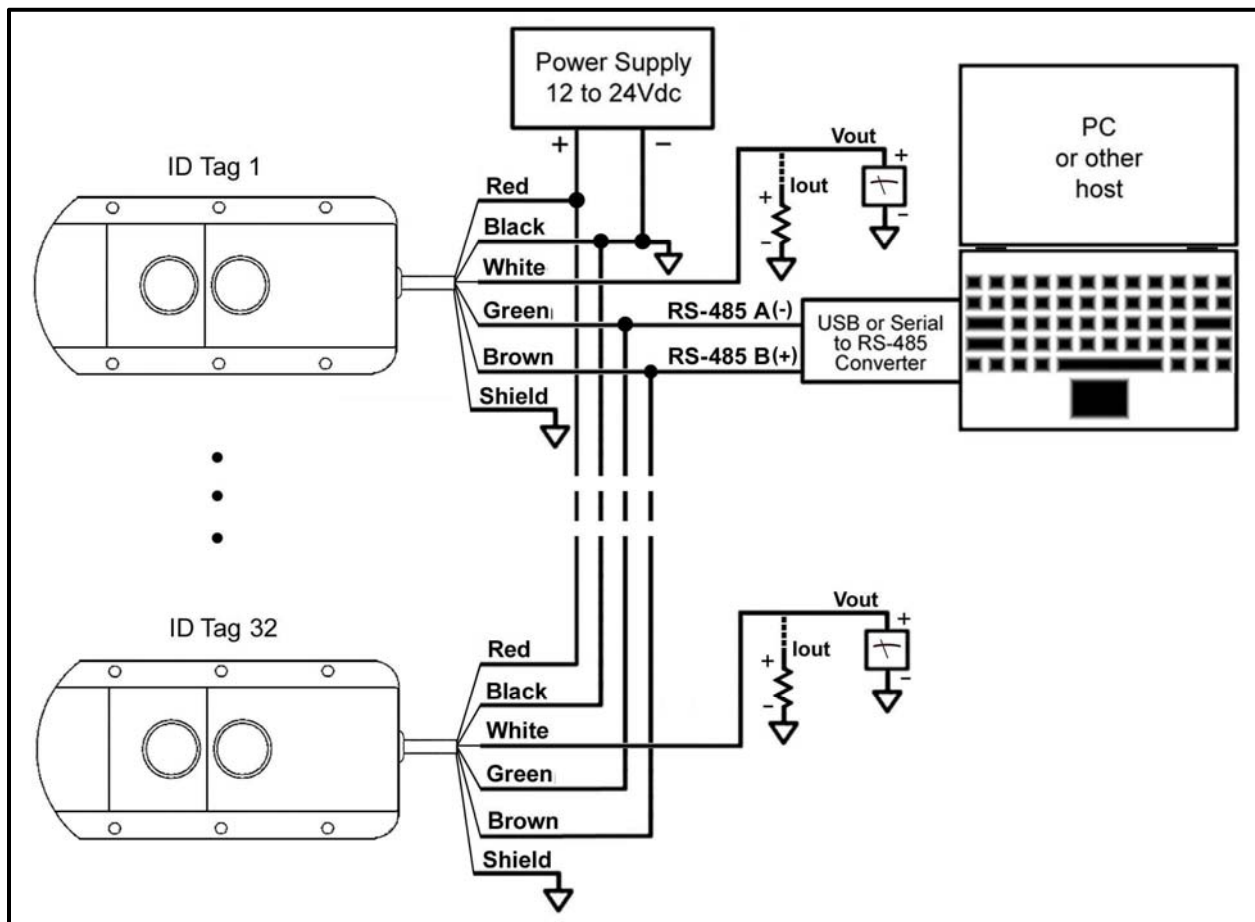

Figure 6
- Once all sensors have been programmed, wire all sensors to the power and RS-485 bus as shown in Figure 6.